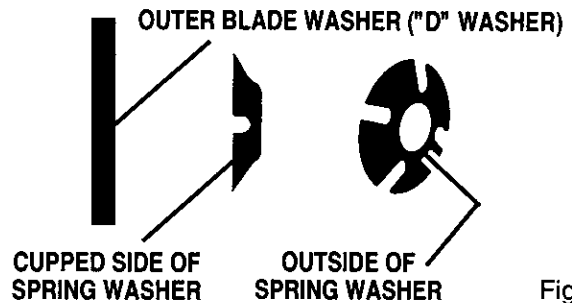

Fig. 6
- Replace "D" washer and spring washer. **Note:** "Cupped" side of spring washer goes against "D" washer. See Figure 6.